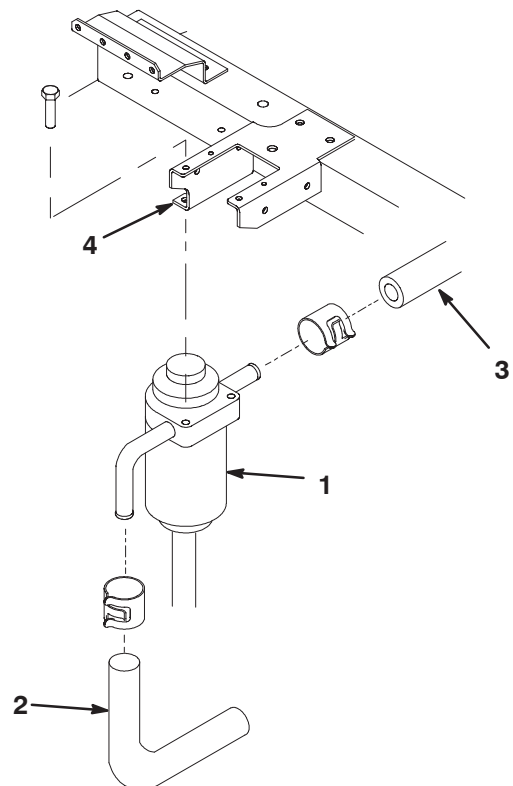

Figure 2
- B. Disconnect the fuel hose (Item 2, Fig. 2) from the fuel separator inlet (Fig. 2). Place the hose into a suitable container which will also be used when draining the tank.
1. Loosen the hose clamps securing the fuel hoses to the fuel separator (Fig. 2).
3. Remove the (2) screws securing the fuel separator to the frame bracket (Fig. 2) Remove and discard the fuel separator.